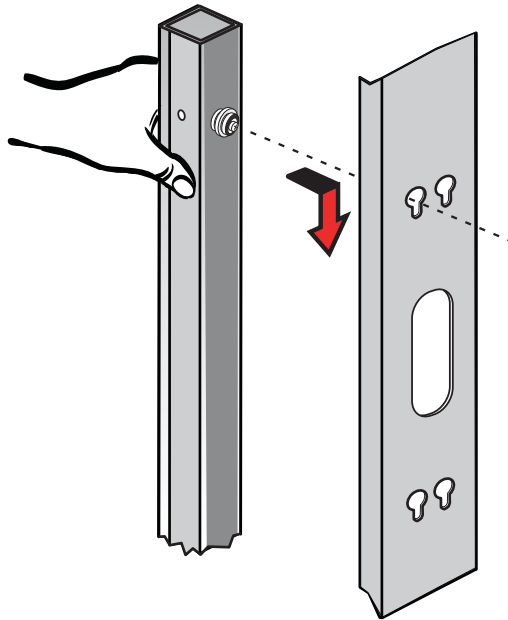

Figure 19. Securing the ePDU
5. Push down to secure the ePDU in position (see Figure 19).